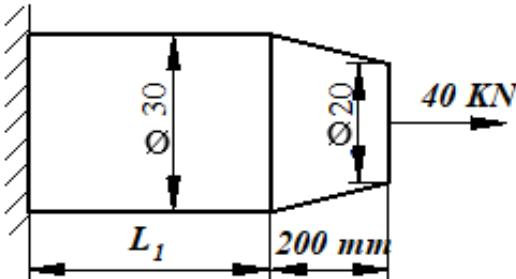

fig 1b
b) A round compound rod is made of uniform rod of diameter 30 mm attached with a 200 mm long tapering rod with big end diameter 30 mm & small end diameter 20 mm as shown in fig 1b. The compound rod is subjected to an axial tensile force of 40 KN. Determine the length L_1 of the uniform rod if the total deformation is limited to 0.2 mm. Take $E=200$ Gpa. **06**